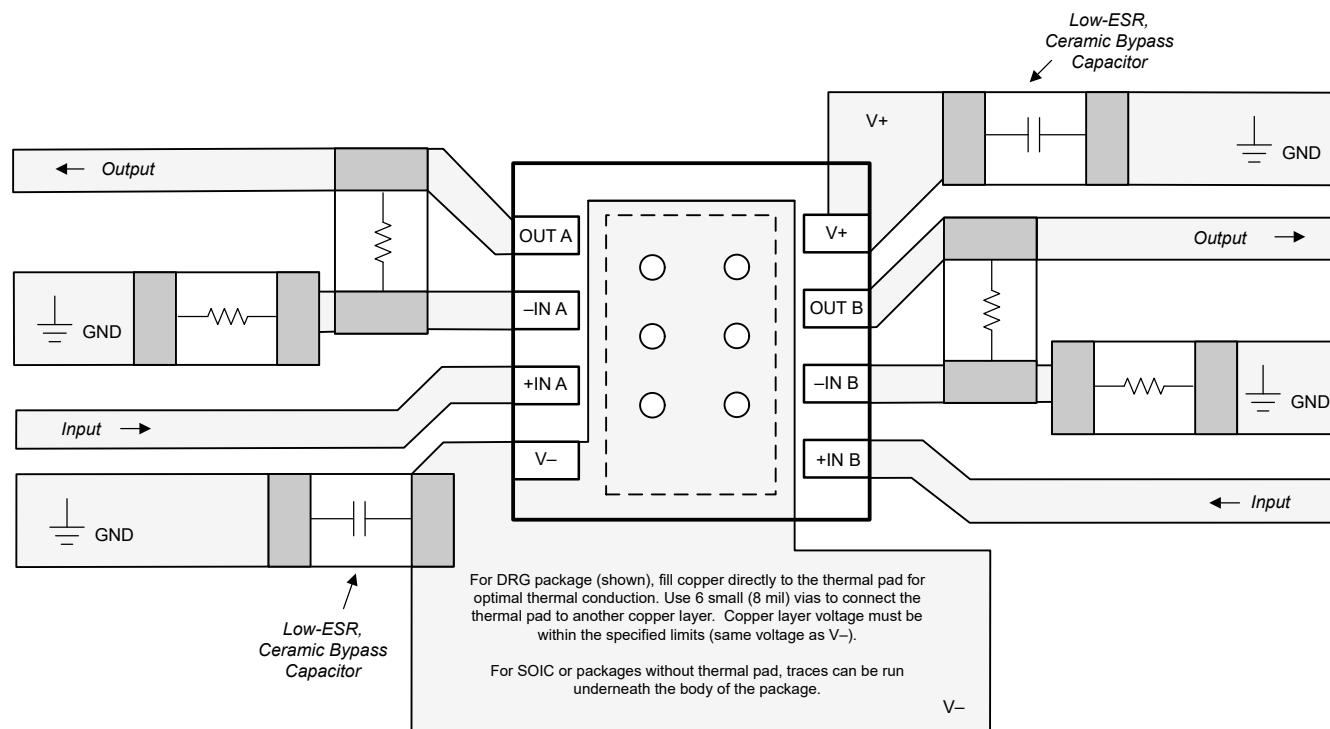

図 8-3. Dual Operational Amplifier Board Layout for Noninverting Configuration
- Place the external components as close to the device as possible. As illustrated in Figure 8-3, keeping RF and RG close to the inverting input minimizes parasitic capacitance.